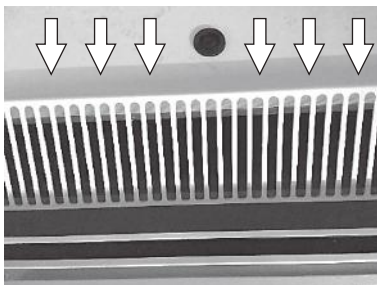

Fig. 8: Air intake grille (example photo)
- ▶ Loading is only allowed up to the border of the air intake grille (see → Fig. 8).